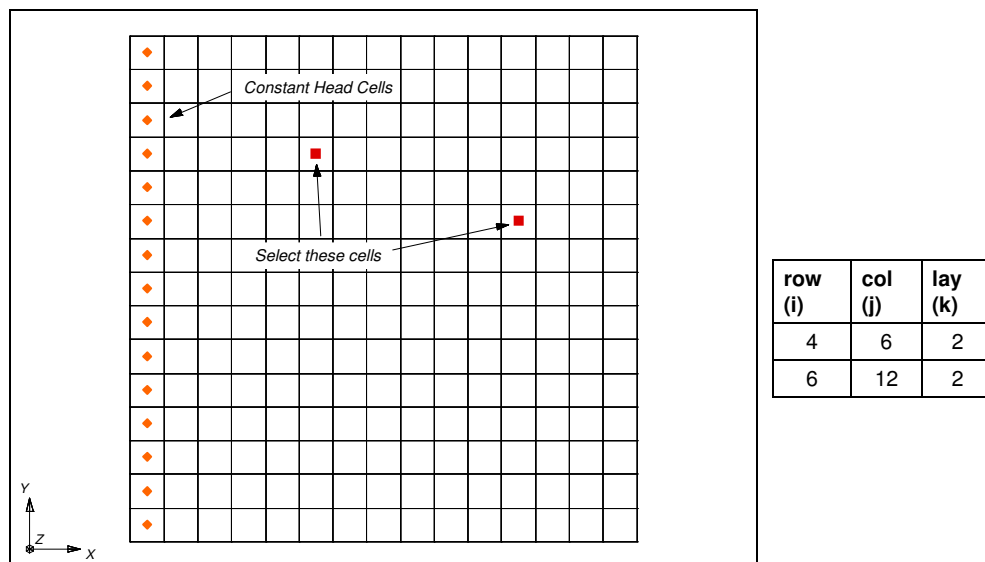

Figure 11-2 Cells to be Selected on Middle Layer.
2. While holding down the *Shift* key, select the cells are shown in **Figure 11-2**.